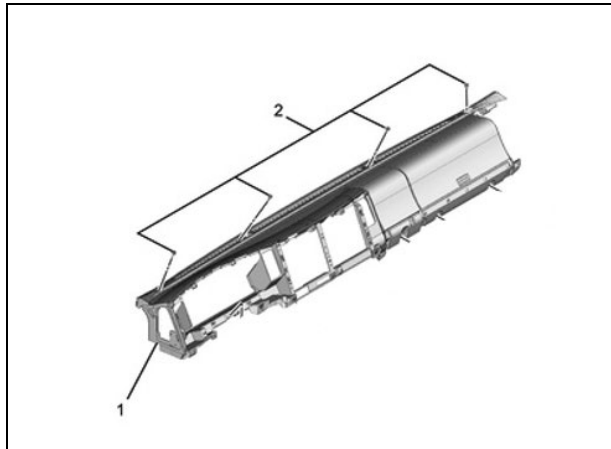

Figure 36
31. Install the four (4) IP mounting bolts removed in step 11. (See Figure 36.) Ensure the camera cable is routed through the new notch in the IP. **Torque the bolts to: 4.0 N•m (35 lb•in)**